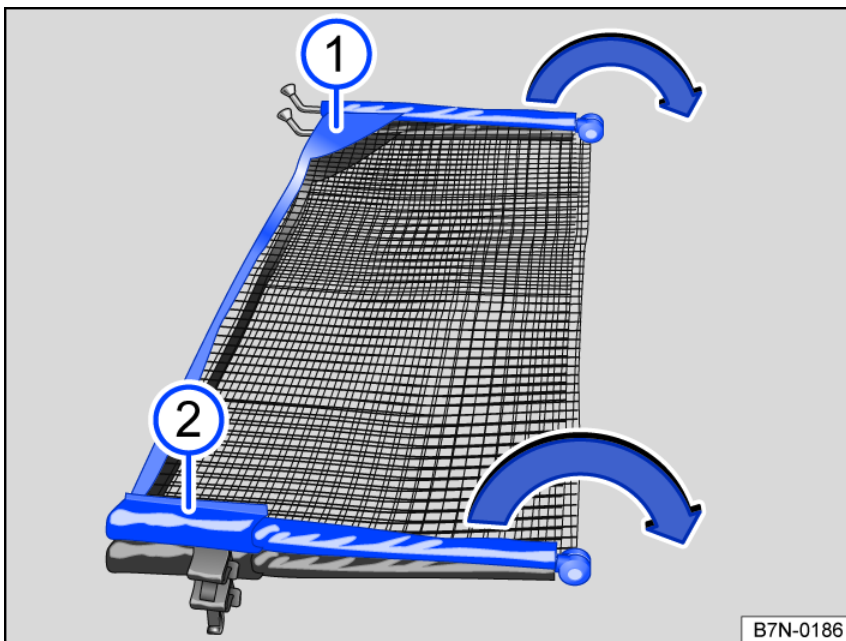

Fig. 161 Folding out the net partition.
Fold out the net partition crossbars *fig. 161* ① and ② in the direction of the arrows until you hear a “click”.